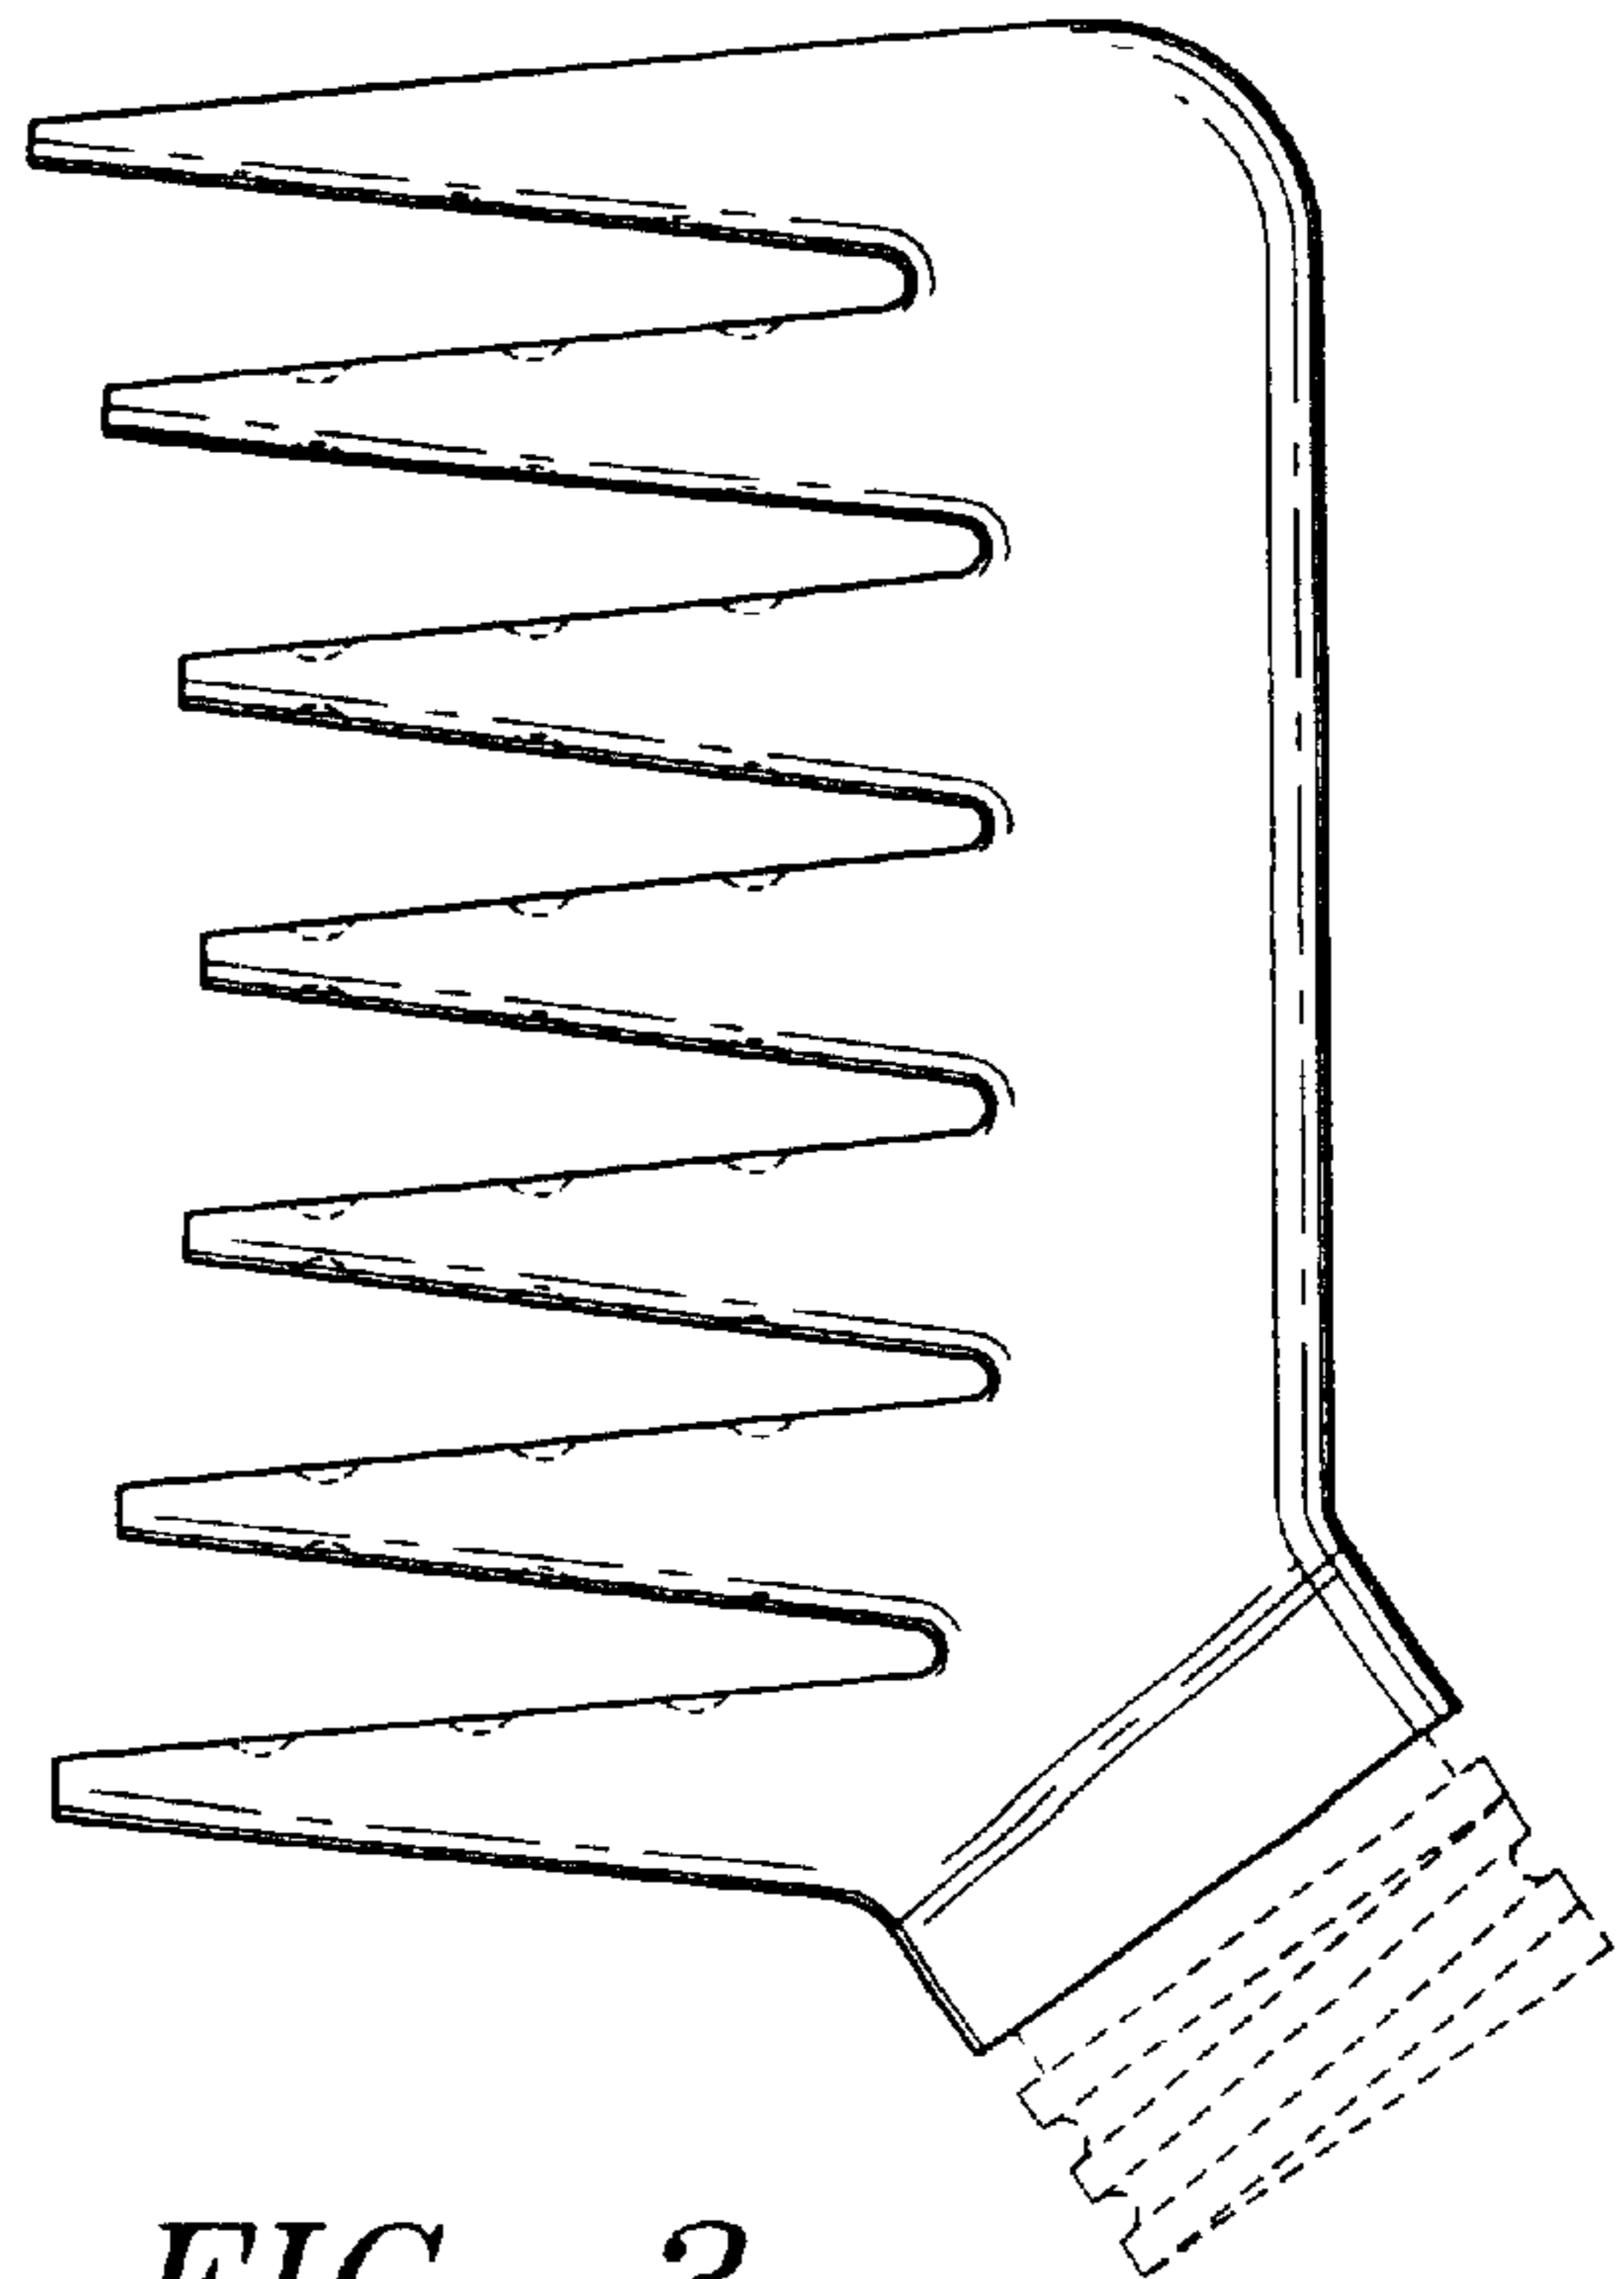

FIG. 3
- FIG. 3 is a left side view thereof; the right side view being a mirror image thereof;